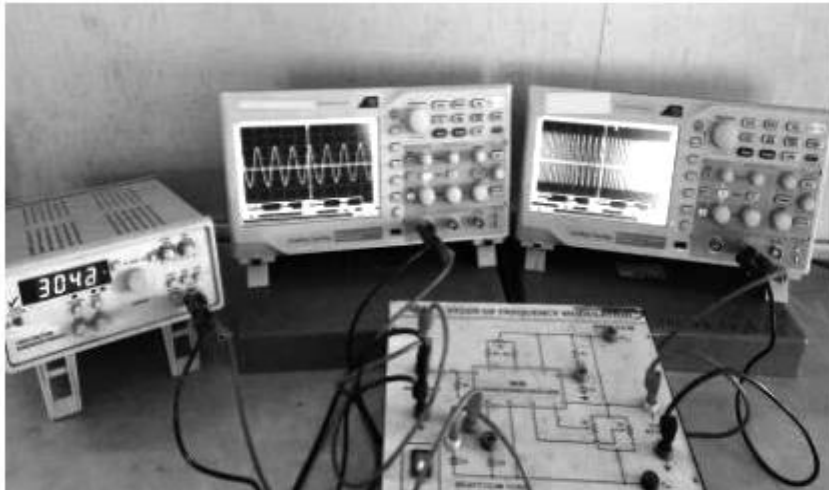

Fig 8.7:FM generation using VCO 8038
1. Make connections as shown in fig 8.7
6. Connect CRO at FM output terminal second channel of CRO/DSO as shown in fig 8.7